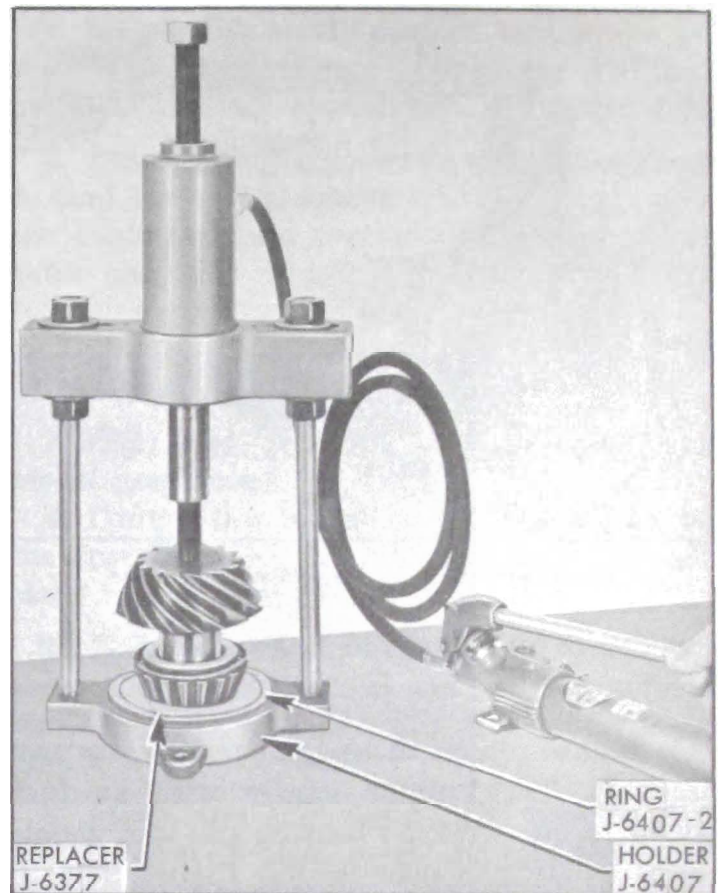

Figure 6-23—Installing Rear Pinion Bearing
3. Whenever a new carrier, a new pinion, or a new pinion bearing is to be used, a trial assembly must be made in order to determine correct pinion depth setting and correct pinion bearing pre-load. For a starting pinion depth setting, use a shim with a nominal thickness of .048". Place this shim against head of pinion and install rear pinion bearing using Replacer J-6377 and Holder J-6407 with Ring J-6407-2 in a press or as shown in figure 6-23.